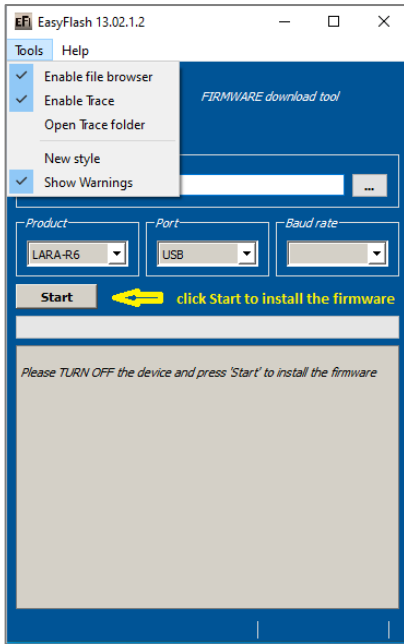

**Figure 6: EasyFlash directory and file details**
Alternatively, uncheck "Enable file browser" in "Tools" to use a .dof file stored in the application folder (see Figure 6).
5. "Enable trace" from main menu (see Figure 6) is ticked by default. This will create a log per flash attempt. It is useful if something goes wrong, and it is needed to report the issue.